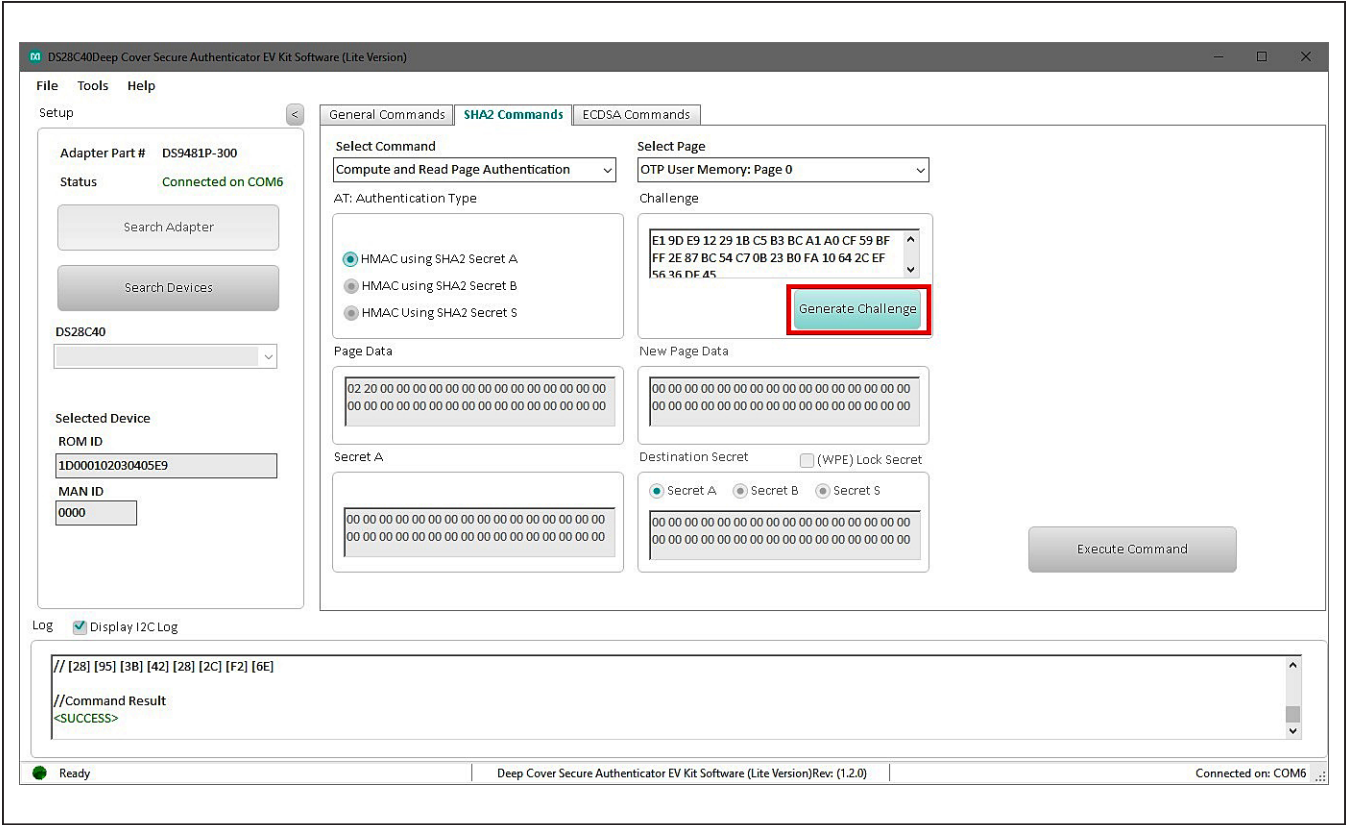

Figure 22. Generate Challenge
8) Click the **Generate Challenge** button to create a random challenge for command (Figure 22).